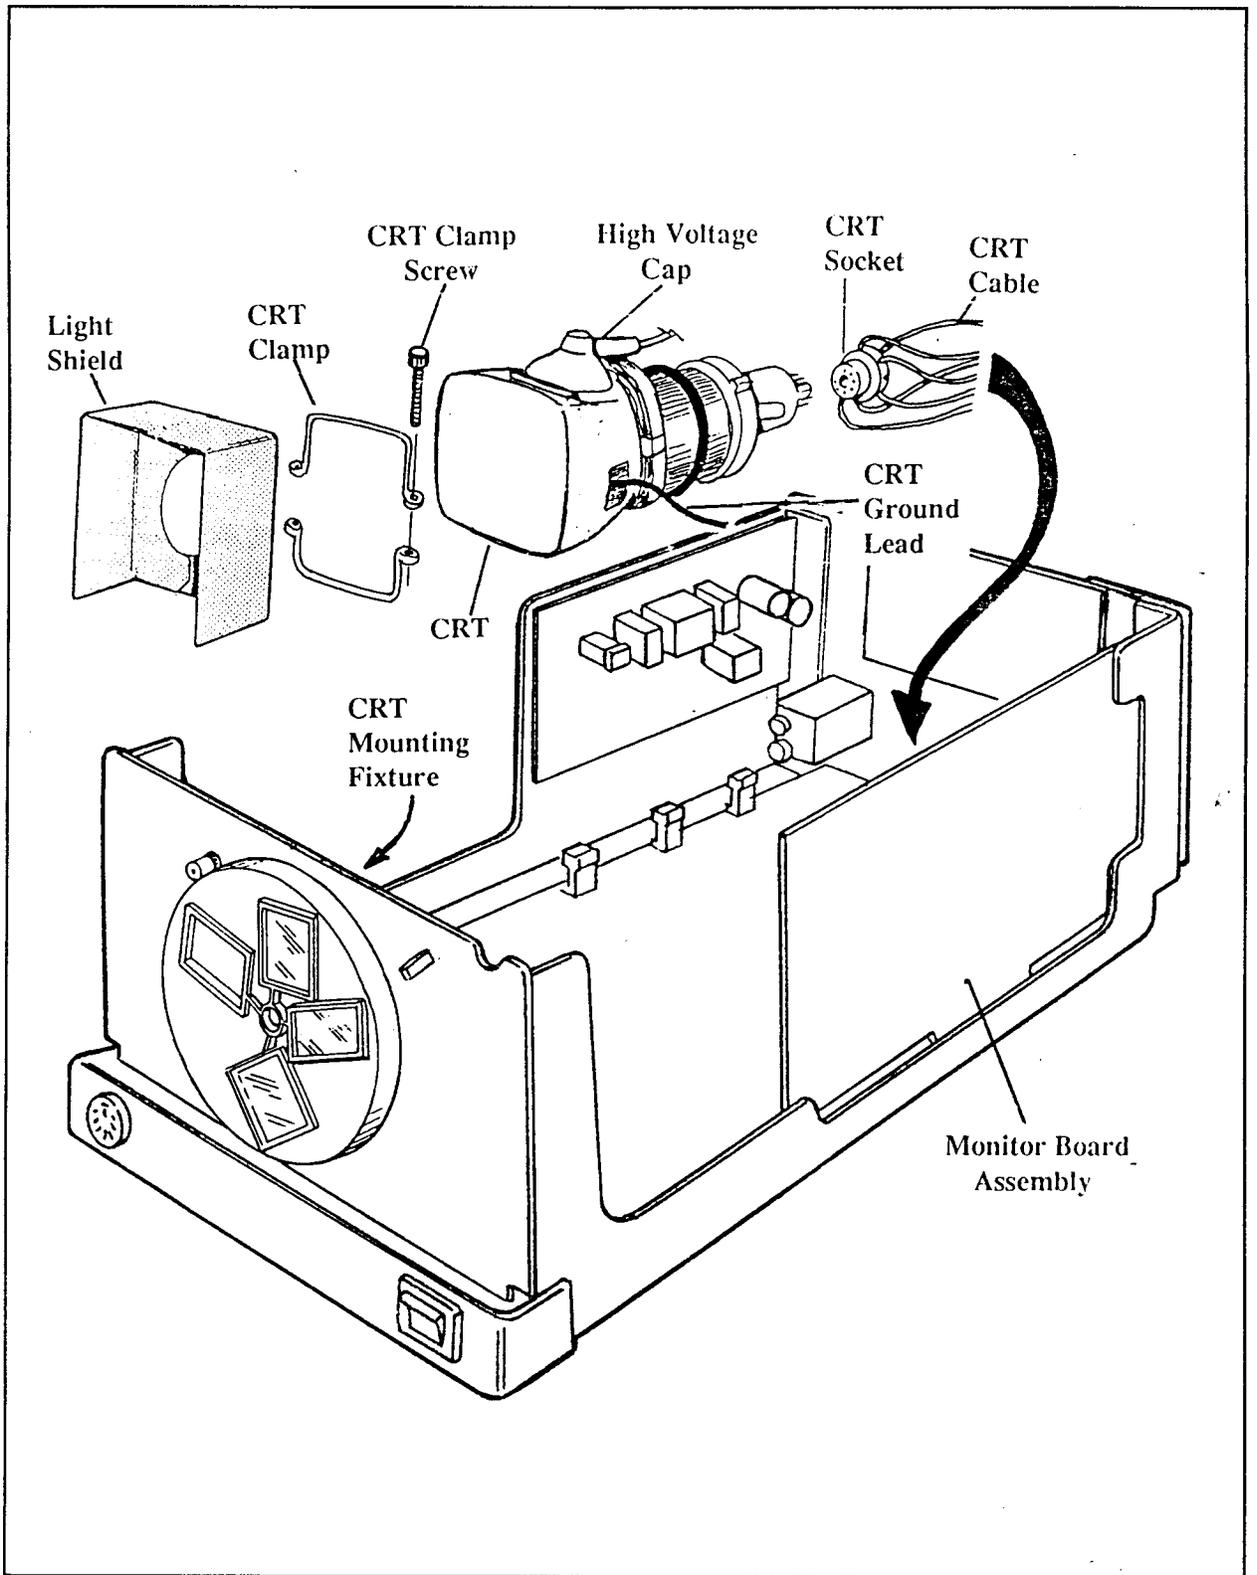

Figure 4-6 CRT Replacement
2. REMOVAL: (Figure 4-6)
- c. Remove the light Shield (Figure 4-6).
- d. Loosen the CRT clamp screws (Figure 4-6) enough to release the CRT. Gently pull the CRT back and out of the CRT Mounting Fixture.
- a. Remove the two CRT clamps (Figure 4-6) from the old CRT Mounting Fixture and install them on the new Fixture.
- b. Press the Mounting Fixture onto the front of the CRT (Figure 4-6) and tighten the clamp screws.
- e. Replace the Light Shield (Figure 4-6).
- c. Remove the Light Shield (Figure 4-6).